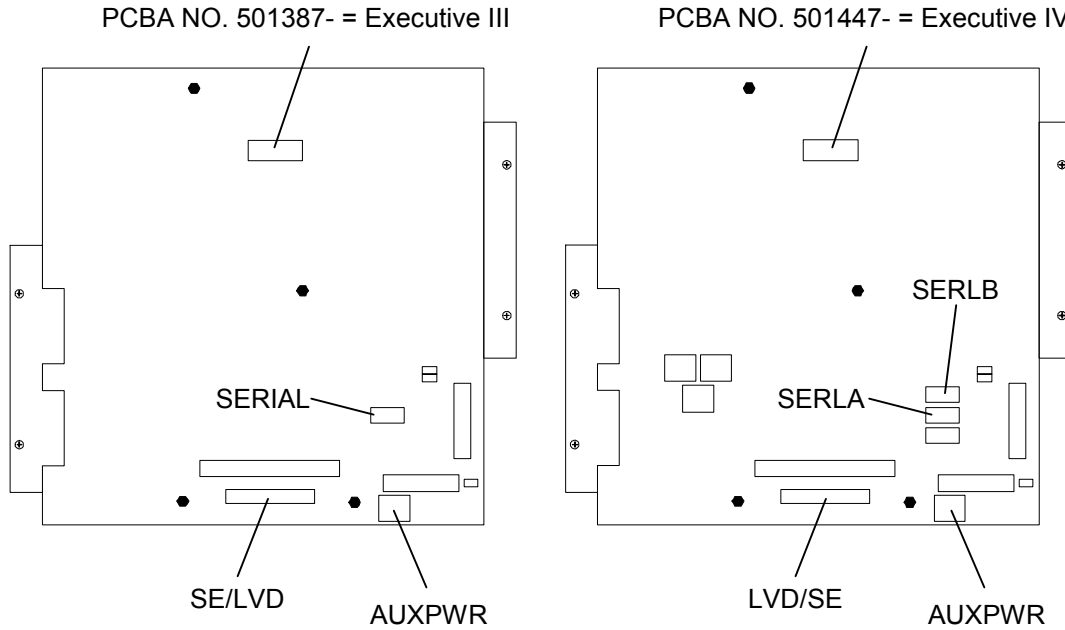

Figure 6-13 Executive PCBA Identification
8. The FCO's SERIAL ribbon cable will connect to differently named connectors on the Executive PCBA depending on which version of Executive PCBA is installed in the library. Executive III PCBA's will have part number 501387-printed on them and Executive IV boards will have part number 501447- on them. Refer to Figure 6-13 to determine which version of Executive PCBA the FCO is being connected to.